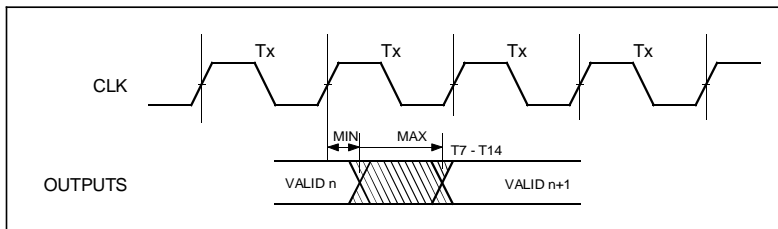

Figure 4-3. Output Valid Delay Timing.
**CL=50 pF, TCASE =0°C to 75°C, See Figure 4-3**